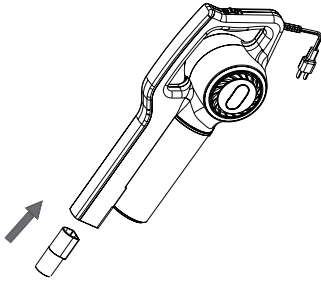

Fig.4
- ◆ Insert the accessories (lance or multiuse brush) in the connector pipe. (Fig. 4)